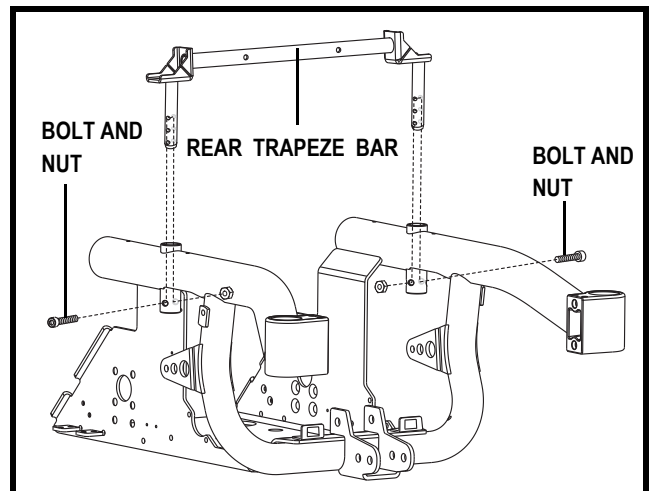

Figure 16. Rear Trapeze Bar Adjustment
7. Remove the bolt and nuts from the rear trapeze bar. See figure 16.
7. Reposition the extrusions on a different set of mounting holes. You must move both extrusions the same number of holes either forward or backward. See figure 16.